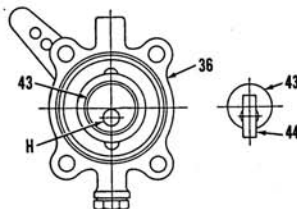

Fig. Y1-34—When installing shifter assembly be sure hole (H) in shifter shaft (43) is below shaft centerline before inserting shifter (44).
stallation. To install side cover assembly center drive cone (13) between forward and reverse gears. Hold side cover so plug (40) is pointing down and shifter hole (H—Fig. Y1-34) is below centerline of shaft (43) as shown in Fig. Y1-34. Install shifter (44) and coat mating surface of side cover with RTV sealer, install side cover onto transmission being careful not to move drive cone off center. Install shift lever (31) on shaft (43) at an angle of 45 degrees as shown in Fig. Y1-35, leaving a 0.05 mm clearance between shift lever and side cover. When correctly installed shift lever will move the same distance off-center when engaging forward and reverse gears. If distance of travel is not equal, loosen side cover bolts slightly and move side cover assembly straight forward or straight backward to equalize lever travel.